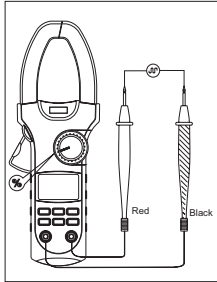

Figure 8
**F. Measuring Duty Cycle** (See Figure 8)**Warning**